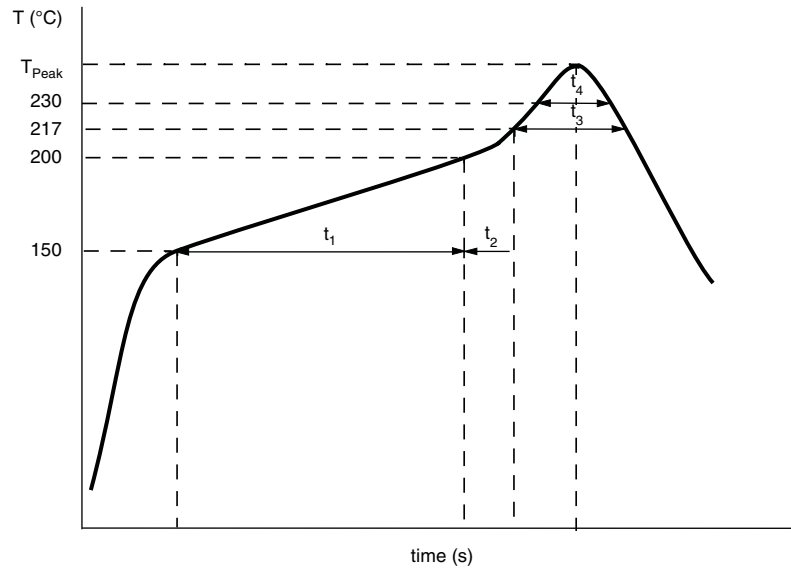

Fig. 4 - Maximum temperature load during reflow soldering measured on capacitors soldering pad and top of the case
- ATTENTION: for maximum safe soldering conditions refer to Fig. 4
For maximum conditions refer to Fig. 4.